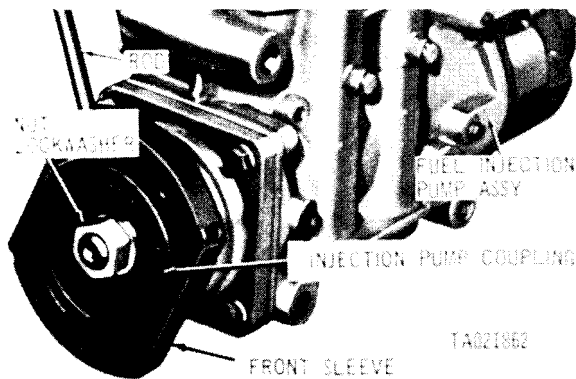

Figure 2-45. Removing or installing fuel injection pump coupling.
(17) Position a metal rod (fig. 2-45) in one of the sleeve alignment holes. Coupling sleeve must be in
coupling half on pump shaft and secure with lockwasher and plain nut (fig. 2-45). Position a metal rod in one of the sleeve alignment holes and torque tighten plain nut. to 900 pound-inches. Install new preformed packing in groove in face of coupling sleeve. Use a light coating of grease to hold performed packing in position.